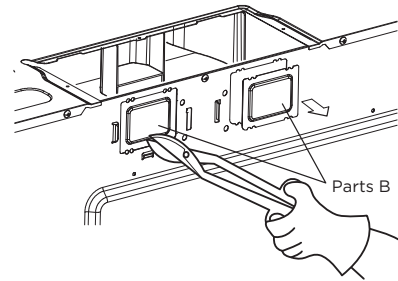

**Figure 9**
- Turn the blower unit so that the fan blade openings are facing back (rear of unit). See Figure 9.